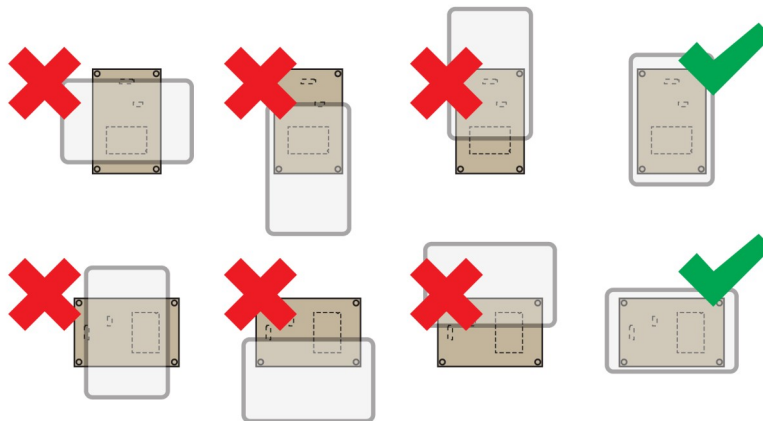

Figure 9
- Optimal performance is achieved when the card is aligned parallel to the antenna, with the longest sides corresponding. Take the user gesture in account when designing the product, and/or position a pictogram over the antenna to indicate the preferred card orientation (*Figure 9*).